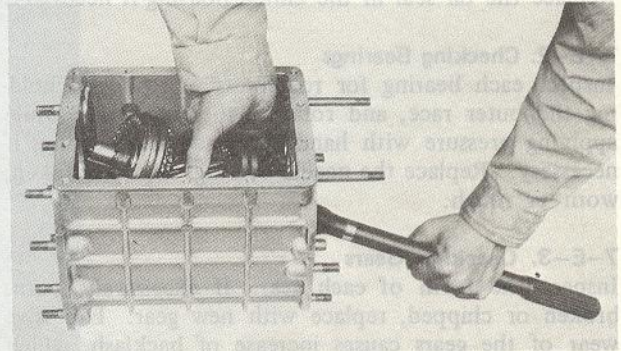

Fig. 7-14 Removing main shaft and gears assembly
33. Take out the main shaft and gears assembly from the case, as shown in Fig. 7-14.